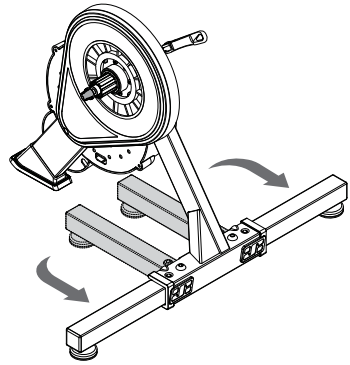

Figure 1
- 1. Setup your trainer on the ground and unfold the legs for stability. Ensure that each leg has clicked and is secure in the open position. (Figure 1)